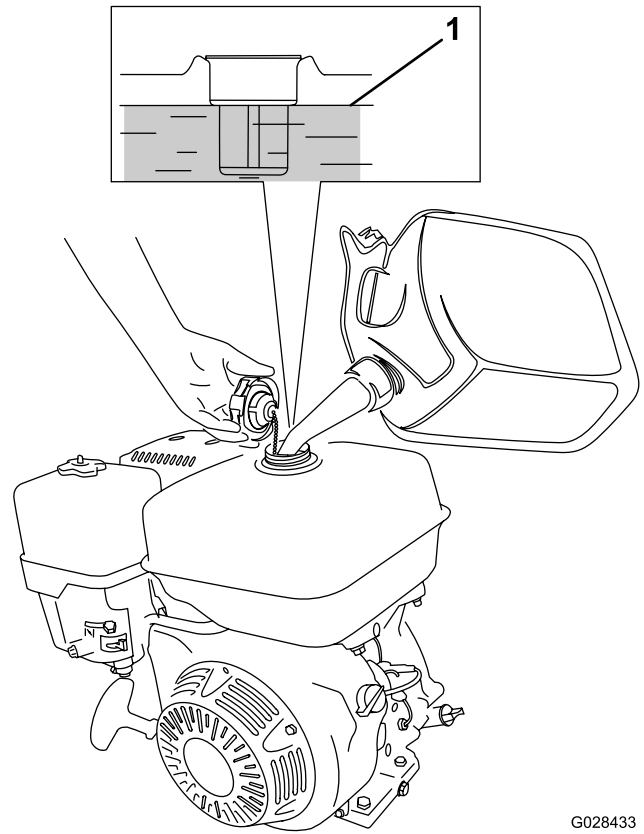

Figure 22
1. Clean around the fuel-tank cap and remove the cap from the tank (Figure 22). Using unleaded (87 pump octane minimum) gasoline, fill the fuel tank to approximately 25 mm (1 inch) below the top of the tank to allow for fuel expansion.